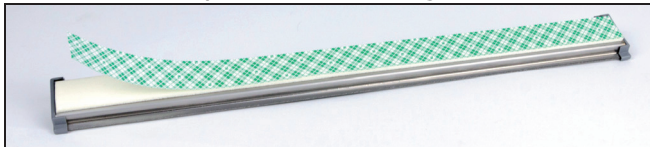

Fig. 2 Remove the protective foil
1. Remove the protective foil (Fig.2).